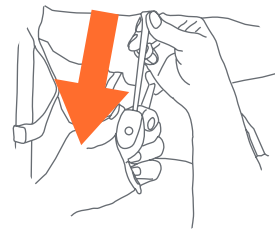
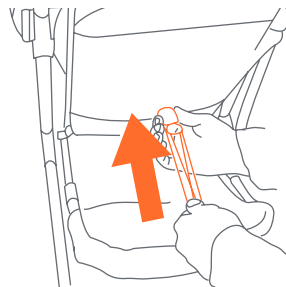

Fig. 9a
Fig. 9b
- 9)** • To recline the seat: loosen the strap through the buckle and adjust to the required recline position (Fig. 9a). To place the seat back in a more upright position, press upward on the seat back with one hand while pulling the strap through the buckle with the other (Fig. 9b).